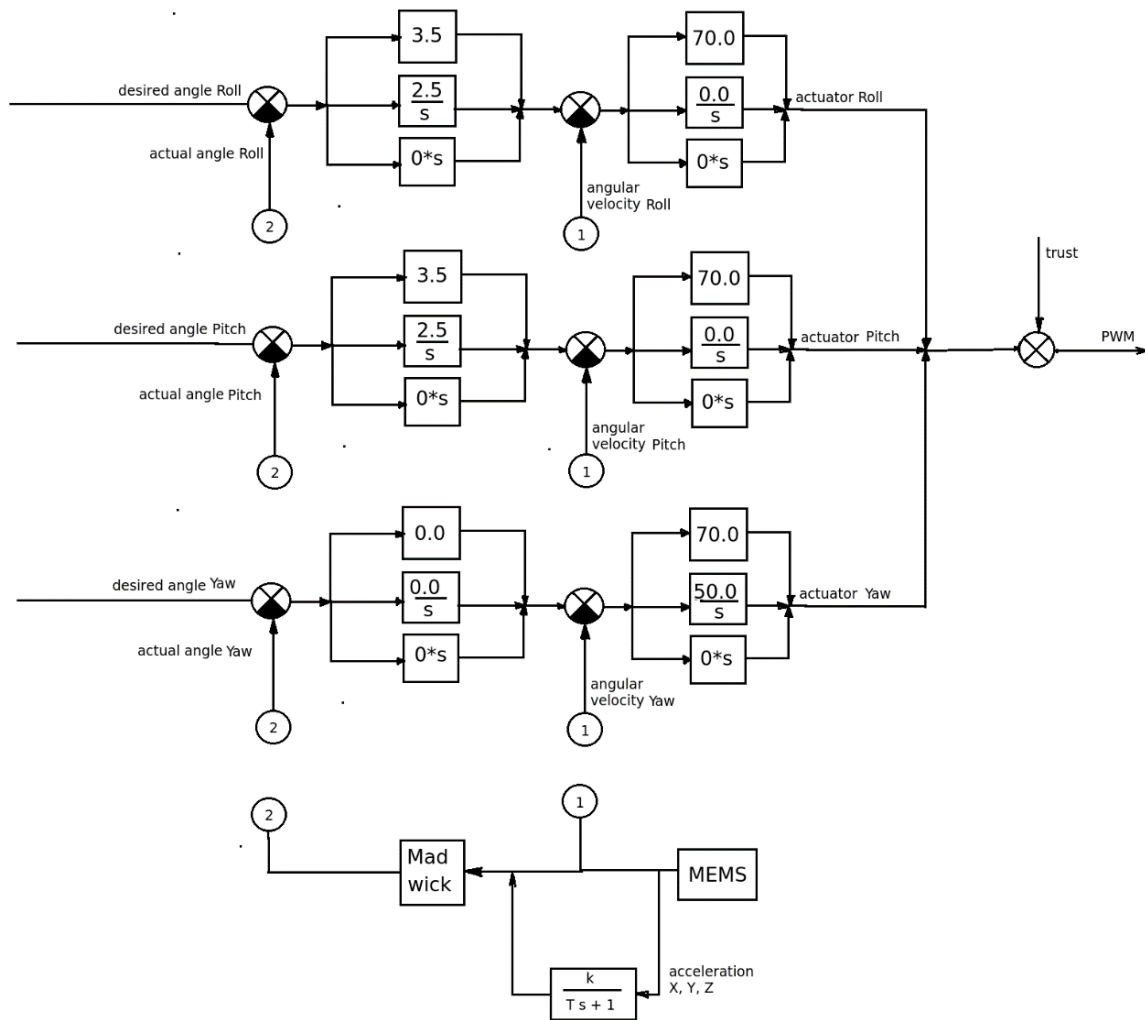
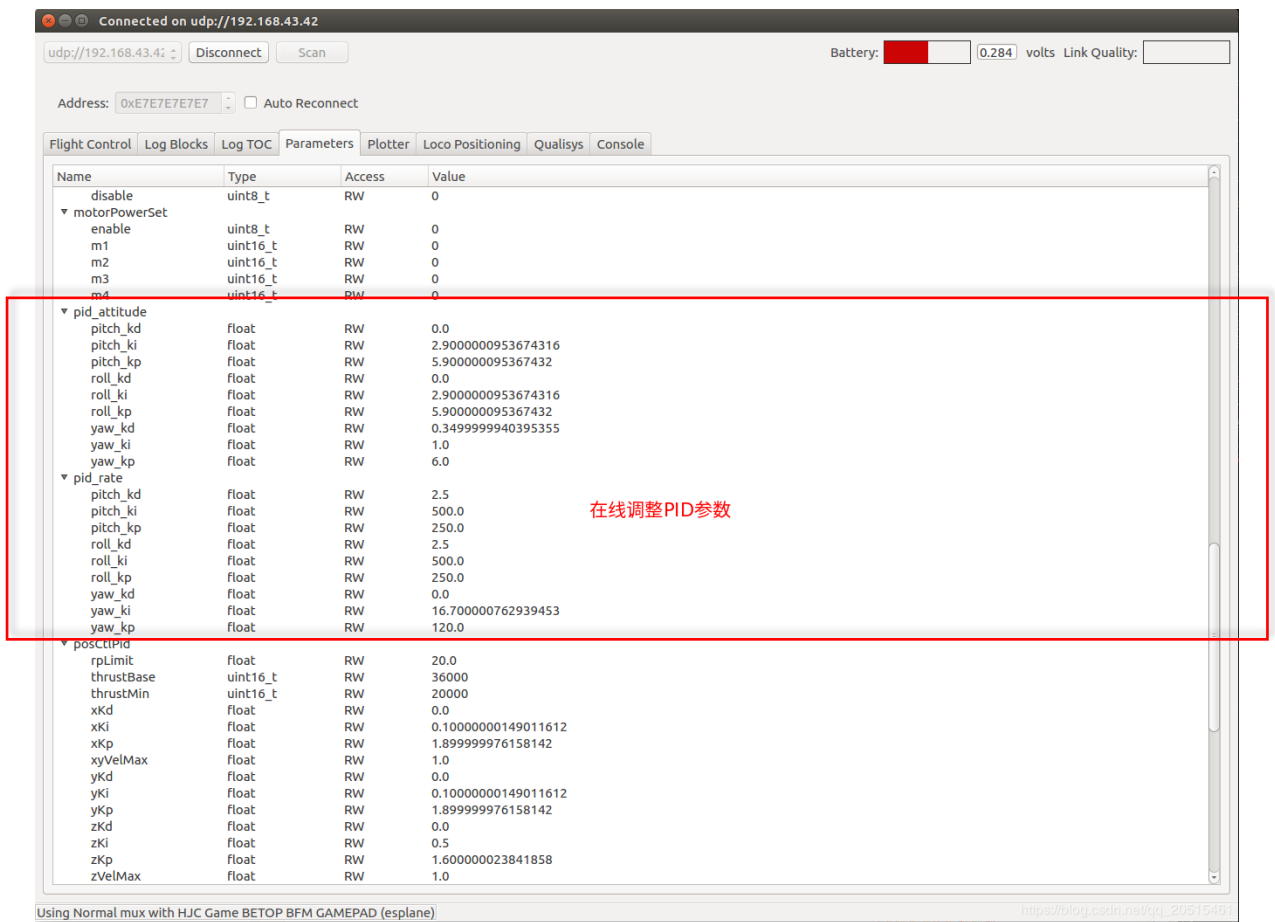

Figure 58. Drone Control System.
Figure 60. Reference for parameter tuning
In order to make the drone stable, we need to tune the PID attitude controller and rate controller. These PID gains are shown in Figure 60 (bounded by the red box). The detailed relation between the parameters is shown in Figure 58, but in short:
- The **attitude controller** sets the angular velocity (rate) that the drone should achieve according to the desired attitude (pitch, roll, yaw). This desired attitude is set by a filter algorithm running on the drone that reads the IMU data (in Figure 58, the Madgwick algorithm is used, but other algorithms exist such as the Complementary Filter).